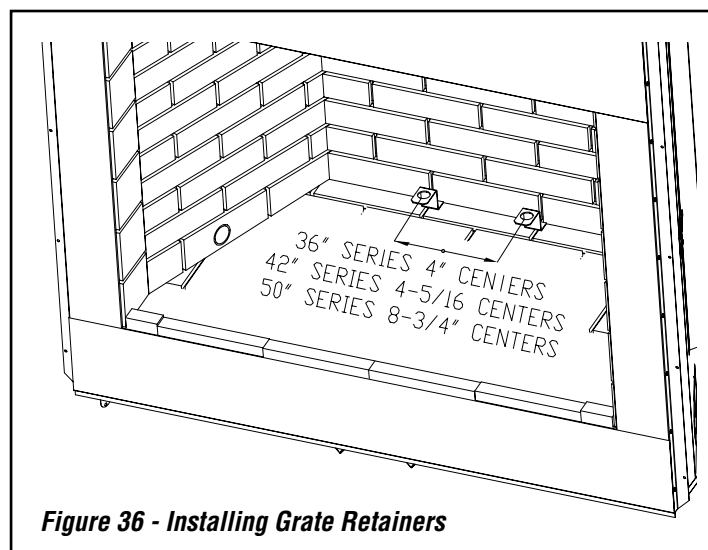

Figure 36 - Installing Grate Retainers
1. Place the provided grate retainers on the hearth as shown in **Figure 36**. The back of the retainer will be flush with the rear firebrick wall. Mark the center of the hole on the hearth with a marker.